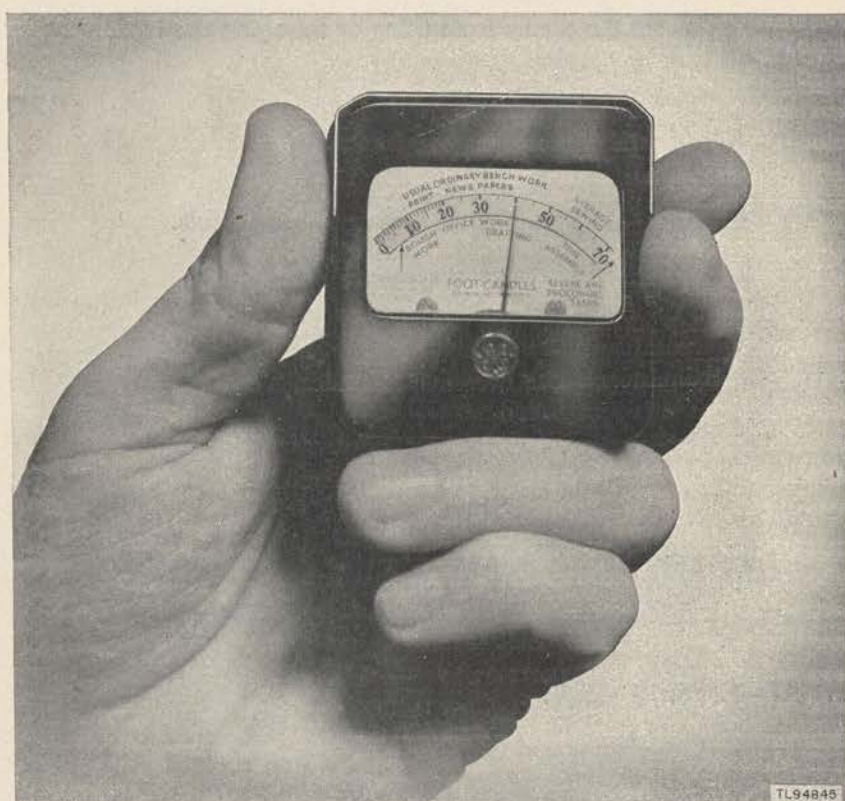

Figure 1. Light Meter (V-Mail).
The Light Meter (V-Mail) (fig. 1) is an instrument for measuring light in foot-candles by the use of a light-sensitive dry plate or barrier-layer cell. The cell, when struck by light rays, sets up a difference of potential and is connected directly to a microammeter. When light strikes the cell, it will actuate the microammeter needle and give readings on a scale graduated in foot-candles up to a full scale reading of 75. The meter is so designed that the face of the scale is at right angles to the recessed light-sensitive cell and, as a result, the meter may be used without the need for shading the cell. Issued with the meter is a 10-to-1 multiplying plate. When placed over the cell window, this plate permits readings up to 750 foot-candles. The light meter is a self-contained unit. The plastic housing measures $2\frac{1}{4}$ inches square by $1\frac{1}{8}$ inches thick. The entire unit weighs 7 ounces. Light Meter (V-Mail) is the General Electric model 8DN4042.
a. DIAL (fig. 1). The dial of the light meter is protected by glass against damage and dirt. The dial is marked at recommended light intensities for various everyday tasks such as office work, reading, drafting and similar activities. The foot-candle readings are calibrated from 0 to 75.